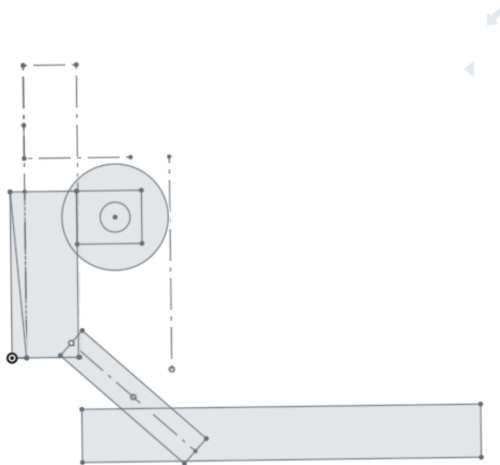
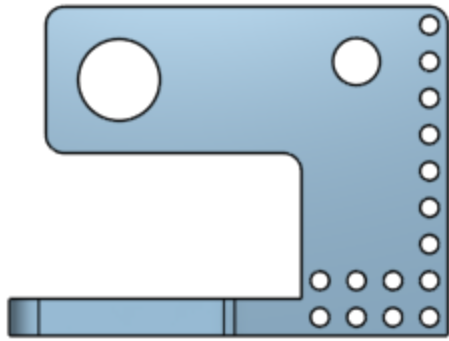
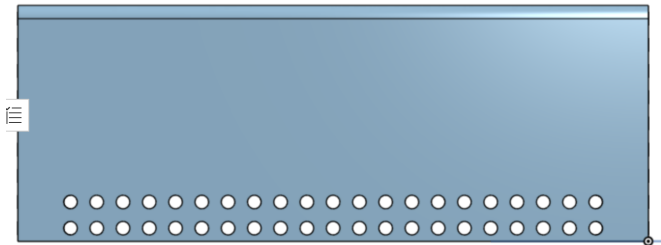
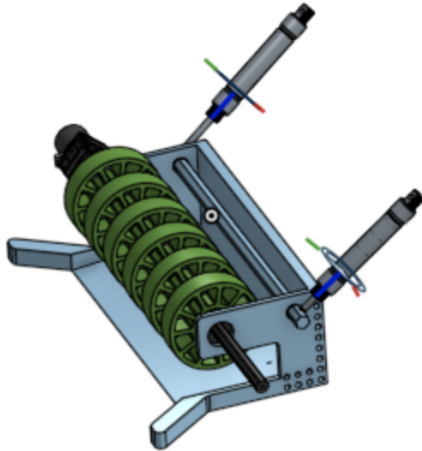

Figure 2. 2D sketch of the assembly mechanism.
Figure 3. Extruded Side Wall.
Figure 4. Extruded Back Wall.
Figure 5. Final Render View.
- Figure 2. 2D sketch of the assembly mechanism.
- Figure 3. Extruded Side Wall.
- Figure 4. Extruded Back Wall.
- Figure 5. Final Render View.
CAD stands for the computer-aided design process. It is an efficient way to layout designs for mechanisms in 2D and 3D using a computer compared with manual drawing. The Onshape software is a free platform that allows clients to collaborate and design mechanisms in 2D and 3D. To put our imaginary design into a draft, we first used a 2D sketch function to see our assembly mechanism from a side view. (See Fig.2) We first sketch each part in the part studio as 2D models, then extrude in a specific direction to create a 3D part. We did this for the left plate, right plate, and backside plate. We used the pattern tool for the holes on the walls to first make circles with a diameter of 0.262 inches equally spaced in the 2D sketch, then extruded it. (See Fig.3, Fig.4) We inserted other existing parts from the MKCAD library to find the ½ inch thunderhex, the neo 550 motors, the 4 inch OD ½ inch compliant wheels, the ultra planetary gearbox, pneumatic cylinders, and the ball joint rod end. To connect the parts together in the assembly page, we sometimes used the grouping tool, but mostly we used fastened mate to fasten it into a single mechanism. (See Fig.5)